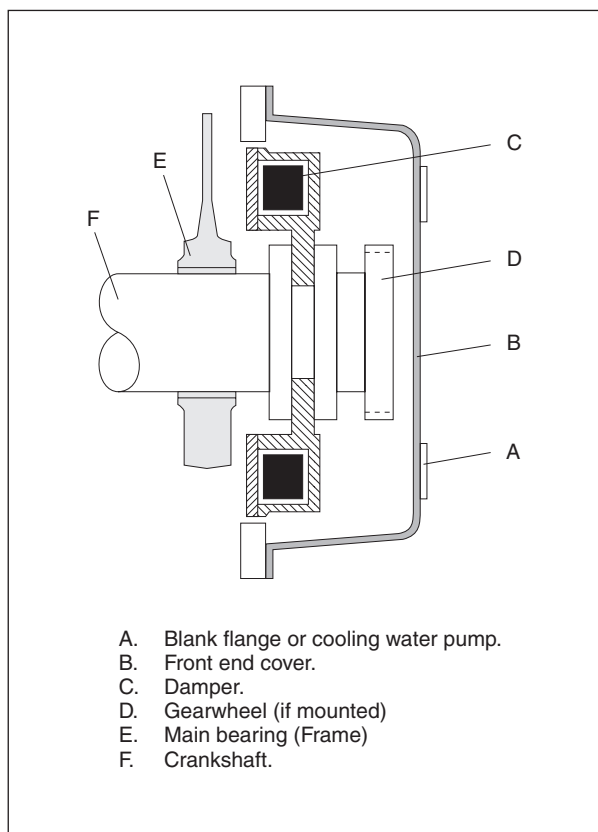

Fig 1. Mounting of Vibration Damper.
2) For access to the damper remove the blank flange (A) on the front end cover (B) see fig 1.